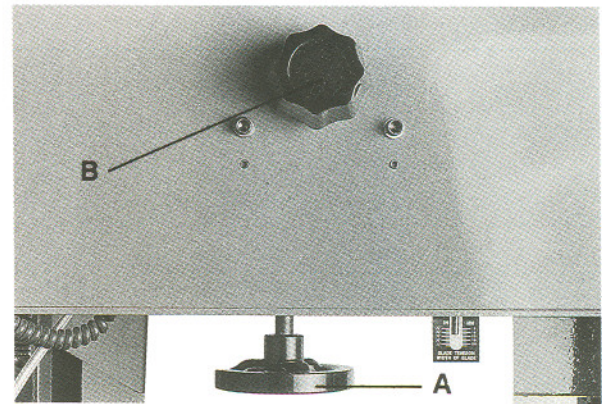

Fig. 6
Blade Tension Handwheel (A, Fig. 6) - located on underside of upper frame. Turn clockwise to tension blade; counter-clockwise to release tension on blade.
Blade Tracking Handwheel (B Fig. 6) - located at the upper rear of the saw. Turn clockwise to track blade toward front of the blade wheel. Turn counter-clockwise to track blade toward rear of the blade wheel.
3. To tighten blade, turn handwheel (A, Fig. 6) clockwise.